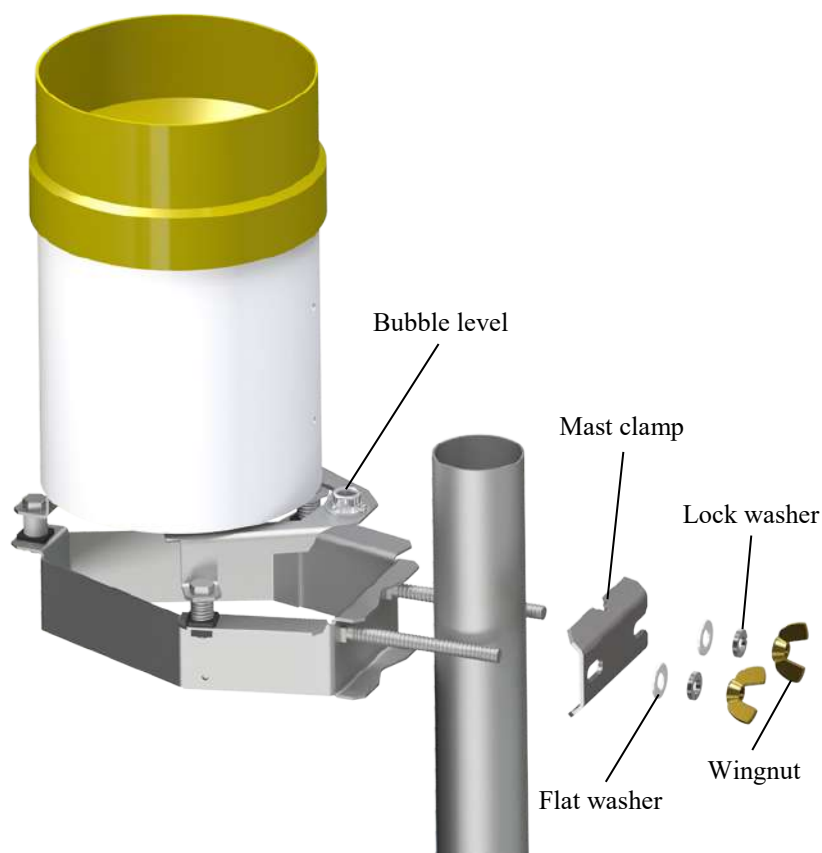

FIGURE C-4. CM270 pipe mounting (exploded view)
2. Loosen the mounting bracket wingnuts and slide the assembly over the pipe. If necessary, the pole mounting hardware can be removed to get the bolts around the pipe. If this is necessary, to reassemble, put the mast clamp on first followed by the flat washer, lock washer, and wingnut. See FIGURE C-4.